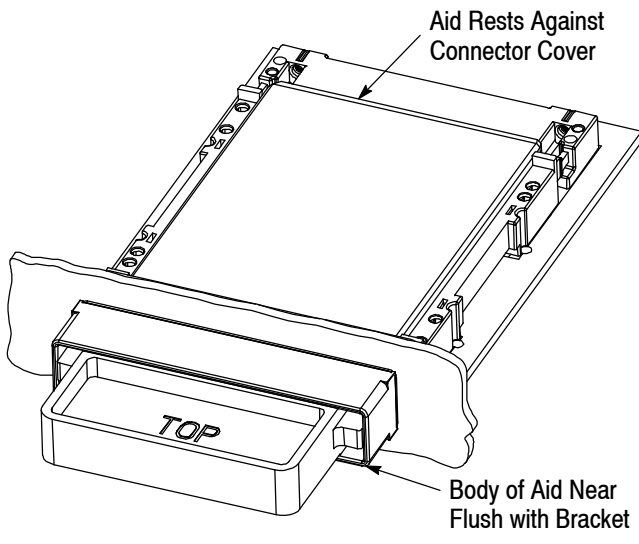

Figure 8
8. Insert alignment aid. The external bracket will only accept the aid if inserted with the proper orientation. Some adjustment may be required if the bezel and pc board components are not already in alignment. Insert until the aid stops against the connector cover, at which point only the handle will protrude significantly beyond the external bracket. See Figure 8.
9. Insert the alignment aid. The external bracket will only accept the aid if inserted with the proper orientation. Some adjustment may be required if the bezel and pc board components are not already in alignment. Insert until the tool stops against the connector cover, at which point, only the handle will protrude significantly beyond the external bracket. See Figure 8.